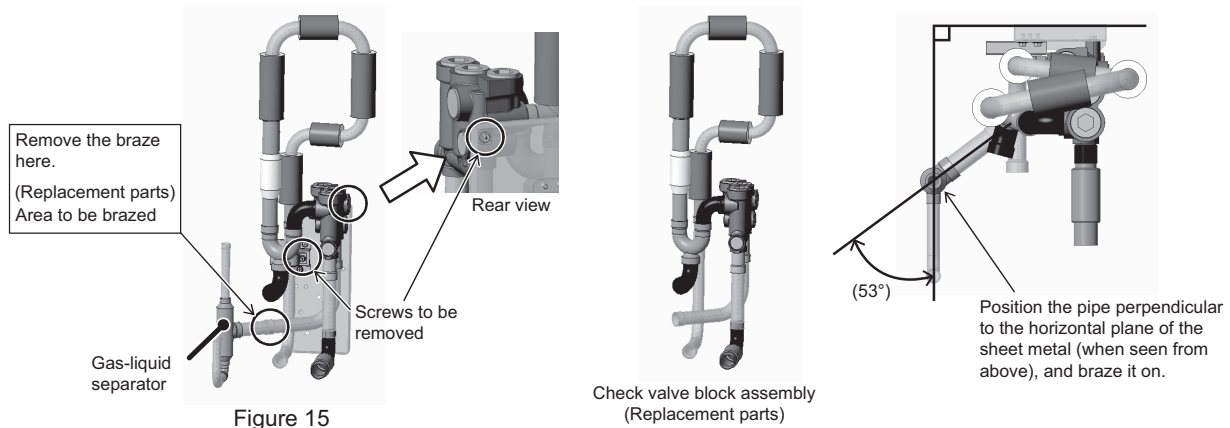

Figure 15
- (15) Remove the braze from the pipe that connects to the gas-liquid separator (where circled in the figure), remove the two screws on the check valve block fixing plate, and replace the check valve block assembly with a new one. (1 area to remove braze from. 2 screws to be removed. 1 area to be brazed. See Figure 15.)